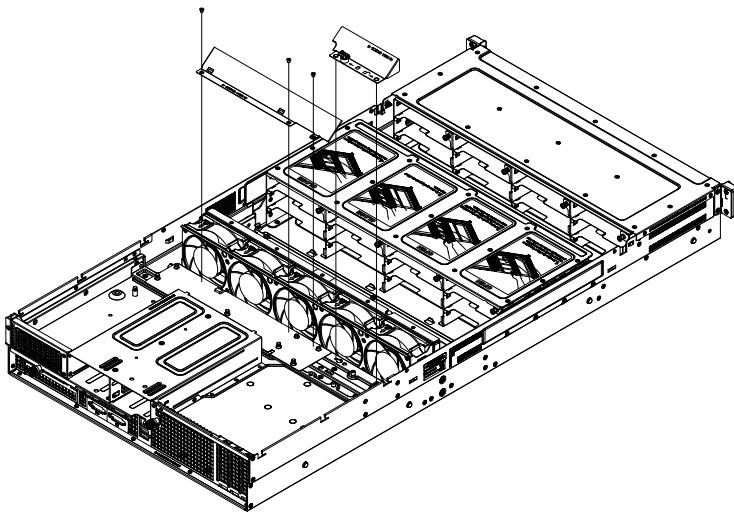

Figure 6-16. Air Shroud Installation
3. Place the smaller air shrouds. (Figure 6-16) Align the mounting holes in the air shroud with those in the chassis and secure them with the three screws provided with the air shroud.